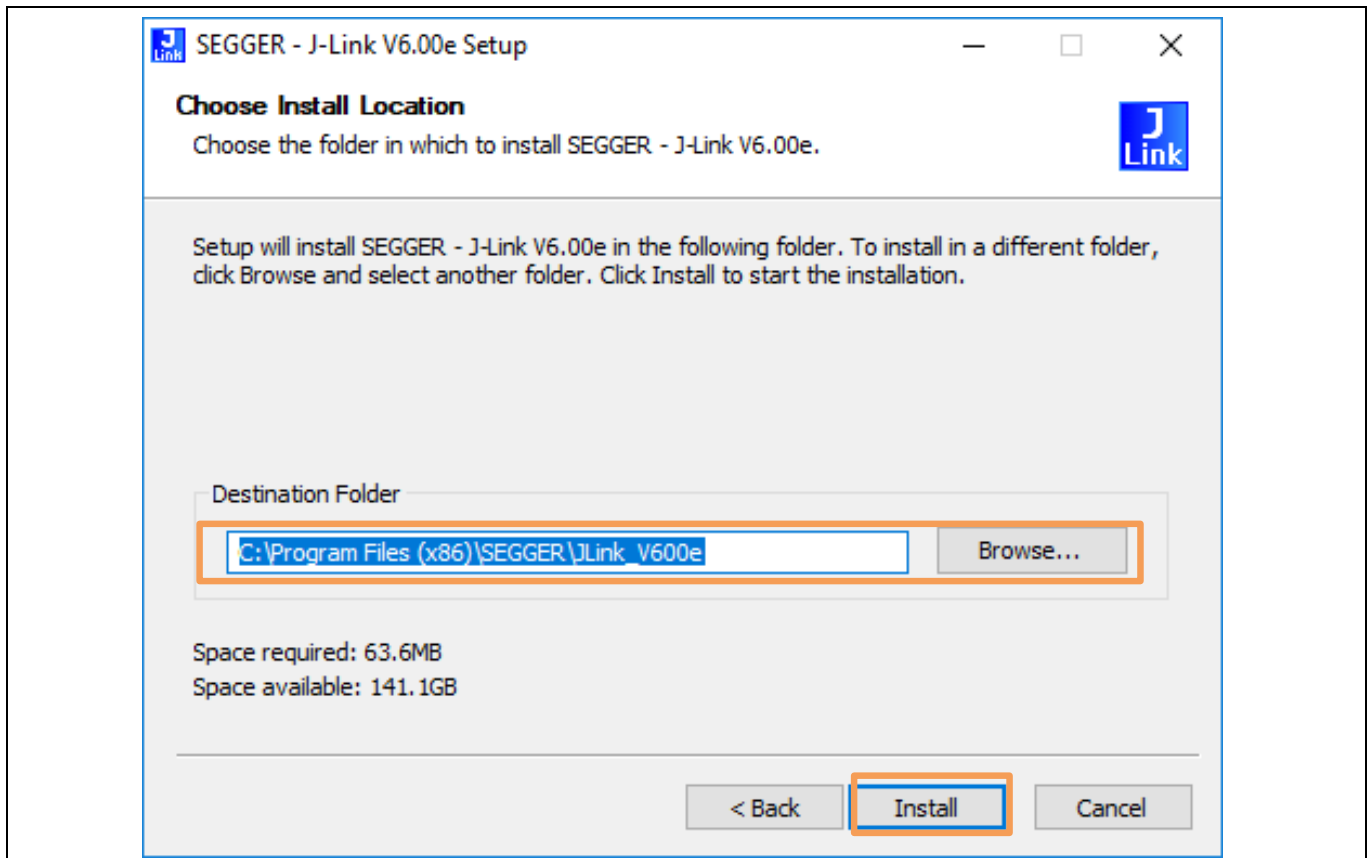

Figure 30 SEGGER JLINK Drivers – Confirm Installation
- Then the installer will prompt for the installation folder. Accept the default one or use another directory by selecting the “**Browse**” button as shown in orange color box of Figure 30. Click “**Next**” button to continue with the installation.